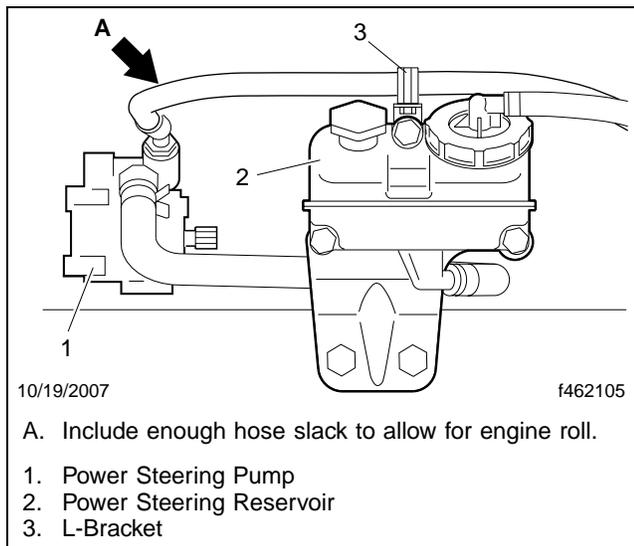

Fig. 4, Hose Routing To Pump (S60 Shown)
33. Install and route the new pressure line from the frame-mounted hose bracket to the pump, and include extra hose between the L-bracket on the top-mount of the reservoir and the pump to allow for engine roll. See **Fig. 4**. Tighten the fitting 42 to 52 lbf-ft (57 to 70 N·m).
36. Using hose clamps, install the new power steering pump suction line on the reservoir and pump. See **Fig. 4**.